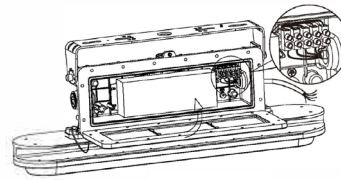

Fig. 3
6. Lock the driver box cover with screws (Fig. 3).